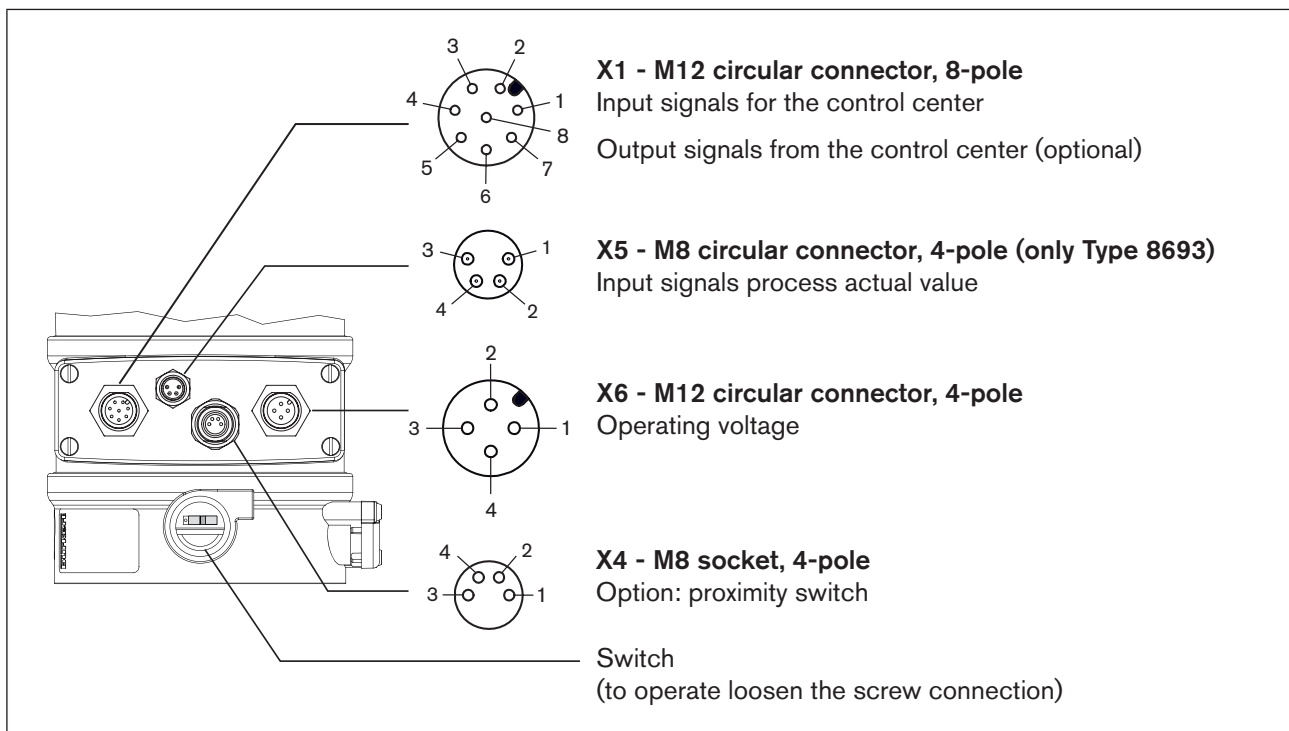

Figure 28: Electrical connection with 24 V DC circular plug-in connector
*** Position of the switch, see "Figure 28: Electrical connection with 24 V DC circular plug-in connector".